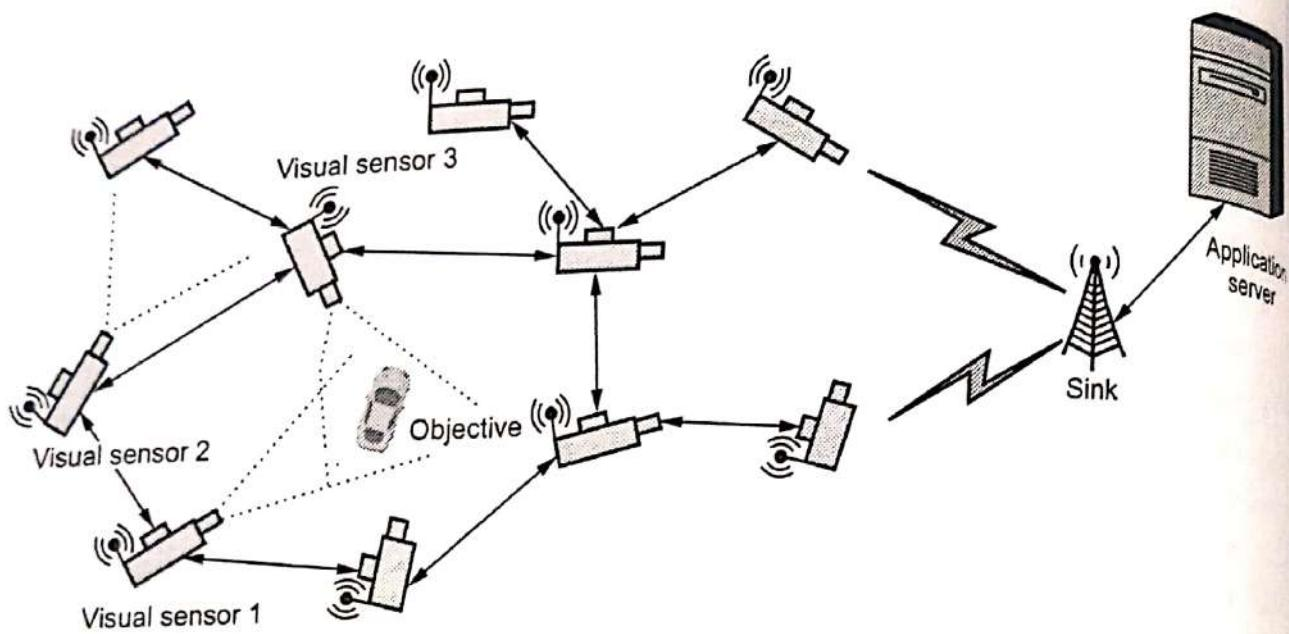

Fig. 1.8.1 : Example of wireless visual sensor networks
- A central idea of VSNs is to keep data processing local to reduce the amount of transmitted data. Fig. 1.8.1 shows VSN.